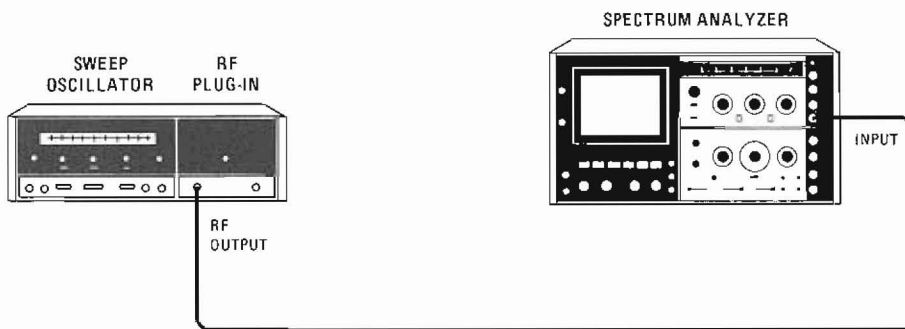

Figure 4-7. RF OFF Detent Test Setup
- a. Connect equipment as shown in Figure 4-7.